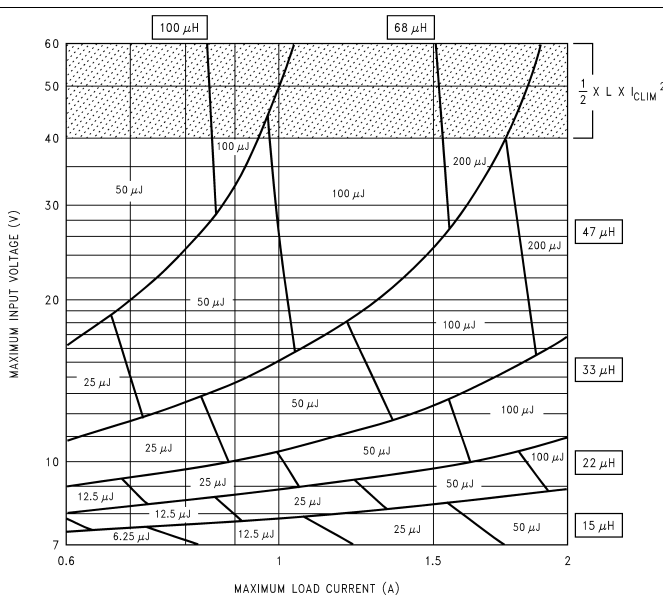

Figure 34. LM2593HV 5-V
1. A first pass inductor selection is based upon inductance and rated maximum load current. Choose an inductor with the inductance value indicated by the nomograph (see Figure 34) and a current rating equal to the maximum load current. Therefore, quick-select a 68- $\mu\text{H}$ , 1-A inductor (designed for 150-kHz operation) for this application.
- Confirm that it is rated to handle 50  $\mu\text{J}$  (see Figure 34) by either estimating the peak current or by a detailed calculation as shown in *AN-1197 Selecting Inductors for Buck Converters (SNVA038)*, and also that the losses are acceptable.
- A first pass inductor selection is based upon inductance and the switch current limit. Choose an inductor with the inductance value indicated by the nomograph (see Figure 34) and a current rating equal to  $I_{\text{CLIM}}$ . Therefore, quick-select a 68- $\mu\text{H}$ , 4-A inductor (designed for 150-kHz operation) for this application.